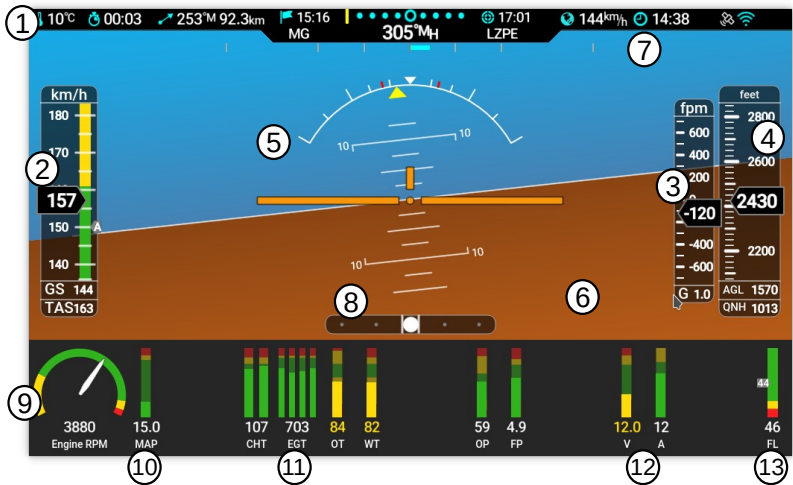

Figure 5: Illustration of the PFD/EMS screen with horizontal layout.
- ① Status bar. Please refer to section 3.4 on page 19 for more details.
- ② Airspeed tape. Indicated airspeed is shown in a form of moving tape. Current IAS value is emphasised. ground speed and true air speed are available at the bottom of the tape. In addition, various V speeds are also shown in the form of small tags.
- ③ Vertical speed scale.
- ④ Altitude tape. A height above ground level (AGL) and current QNH value are shown at the bottom.
- ⑤ Attitude indication of pitch and roll. Roll scale has dash markings at 10, 20, 30 (long), 45, 60 (long) degrees. Figure 5 shows situation at 45 degree roll. Long pitch scale line has number at side, medium line refers to a 5 degree step and short line is 2.5 degree step.
- ⑥ Relative wind indication. Wind direction and speed are shown below1.
- ⑦ Heading rate indication.
- ⑧ Slip indication.
- ⑨ Engine parameter in the shape of round arc.
- ⑩ Single value engine parameter in the shape of vertical bar and a value below.
- ⑪ Multi value engine parameter in the shape of vertical bar. The highest value is shown below.
- ⑫ Trim position.
- ⑬ Fuel tank combination. Left and right tank and sum of both below.